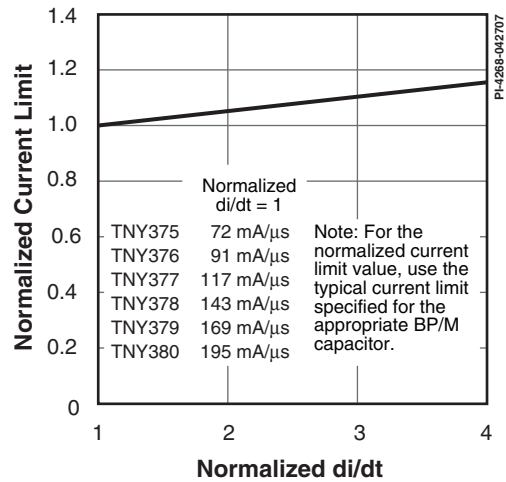

Figure 24. Current Limit vs. di/dt.
- F. For current limit at other di/dt values, refer to Figure 24. Measurements made with device self-biased.